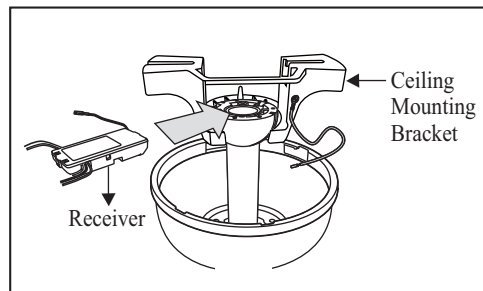

Figure 12
7. After checking the switches, insert the receiver into the mounting bracket with the flat side of the receiver facing the ceiling. (Figure 12)